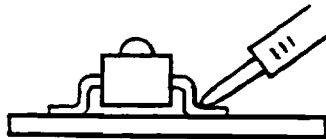

figure 1
- (a) Soldering of leads should be made at the point of leads, which is mounted on board (See figure 1) at 260 °C and within 5 s.